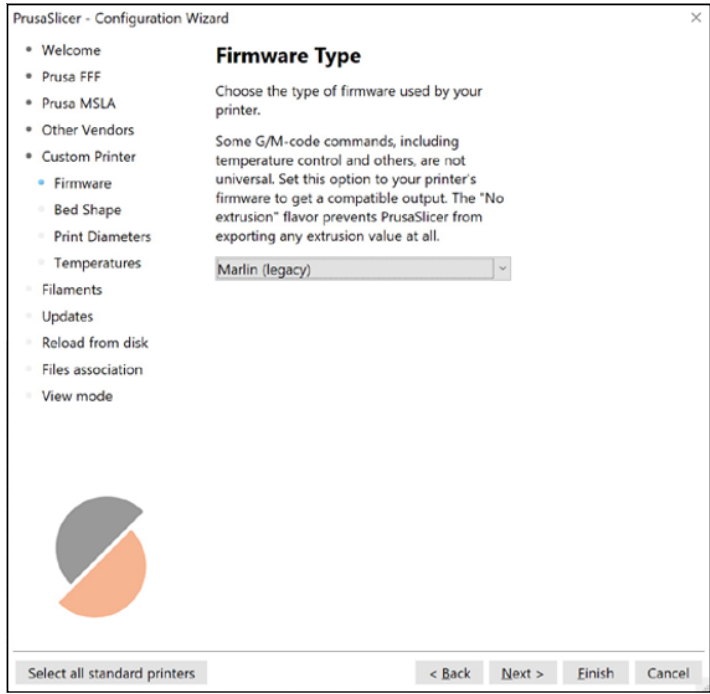

FIGURE 15-13: Choosing the Gcode for your firmware.
a. After selecting the Custom Printer tab in the Configuration wizard, select the style of Gcode to use with the firmware you'll be running on your desktop / RepRap 3D printer in the new screen that appears (see Figure 15-13) and then click Next.